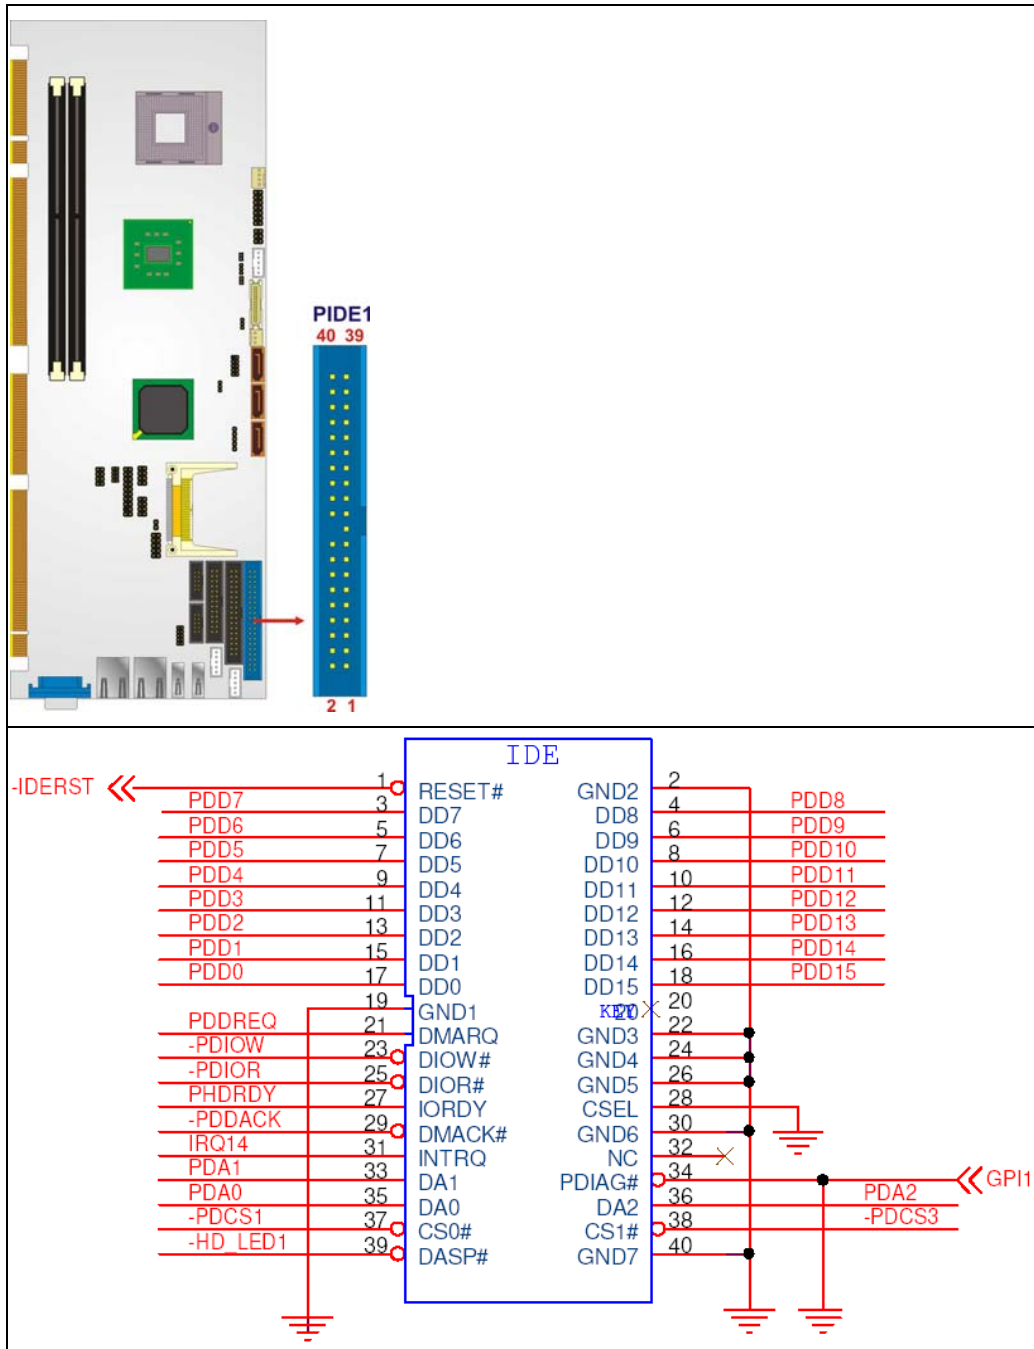

Figure 4-10: IDE Device Connector Locations
- CN Location:** See **Figure 4-10**